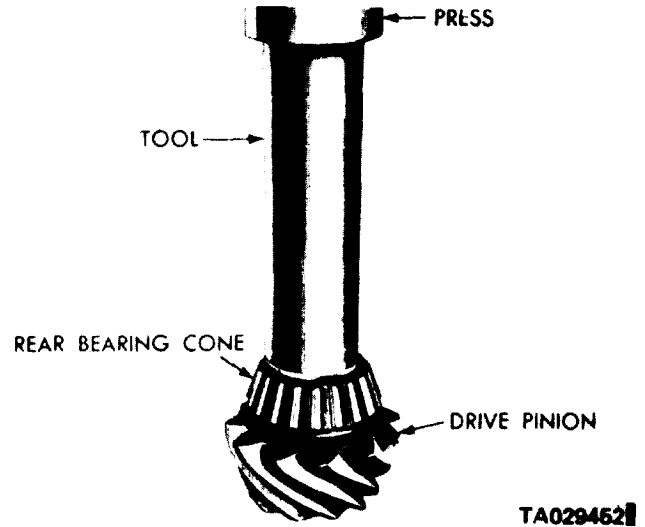

Figure 19-19. Installing the Rear Pinion Bearing Cone.
(6) If the marking is negative, add the correct amount of shims. If the marking is positive, subtract the correct amount of shims. Shims are available in 0.003, 0.005, and 0.010 inch thicknesses.
(7) Remove the tool and adapters from the axle housing.
(8) Remove the rear pinion bearing cup and install the correct shim pack.
(9) Reinstall the rear bearing cup as described in a, above.
(10) Lubricate the cone, and install it on the pinion shaft using tool C-3095-A. Refer to figure 19-19.